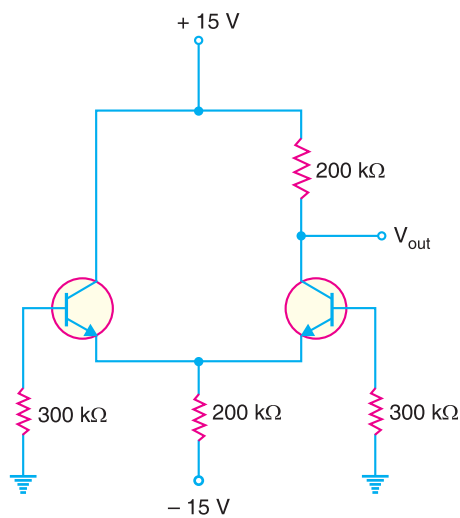

Fig. 25.97
1. In Fig 25.97, the transistors are identical with $\beta_{dc} = 200$. What is the output voltage? [7.5 V]
- In Fig. 25.97, the left transistor has $\beta_{dc} = 225$ and the right transistor has $\beta_{dc} = 275$. What are the base voltages? **[-0.05 V ; -0.0409 V]**